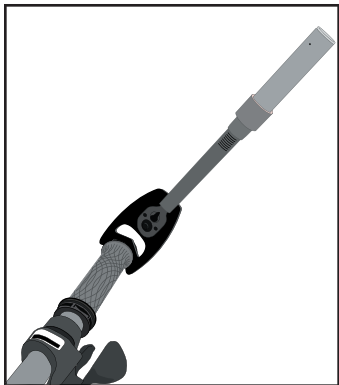

Figure 5: Torque wrench attached to Bontrager grip wrench
- 1. Attach a standard 3/8" drive torque wrench to the matching square hole in the Bontrager grip wrench (Figure 5).*